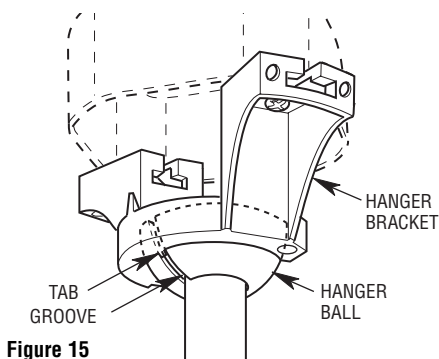

Figure 15
1. Carefully lift the fan assembly and seat the hanger ball in the hanger bracket (Figure 15). The tab on the hanger bracket must seat in the groove in the hanger ball.